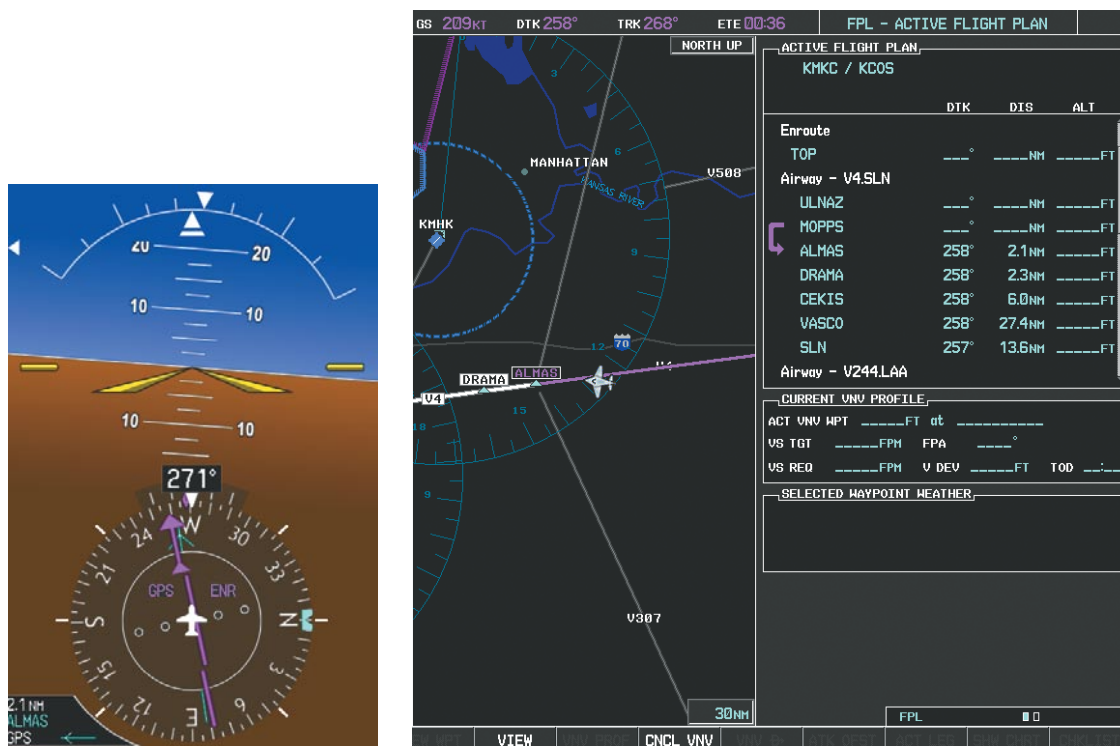

Figure 5-117 Turn on to Active Leg
- 7) As the CDI approaches center, the aircraft turns onto the active leg as seen in Figure 5-117.